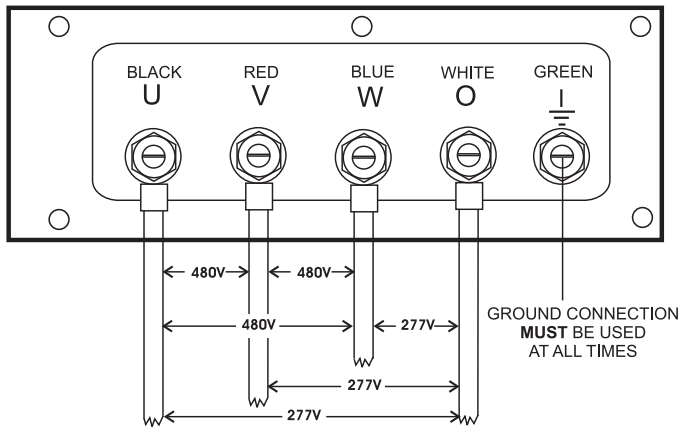

Figure 28. UVW Terminal Lugs 240/139V Three Phase Connections
2. Connect the load wires to the UVW terminals as shown in Figure 28.